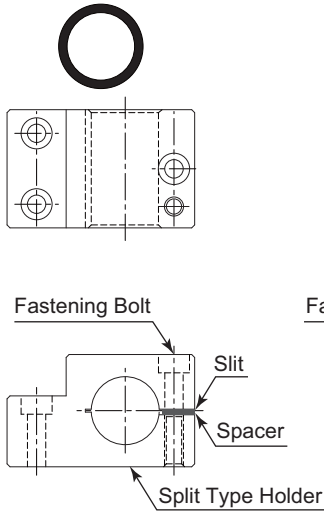
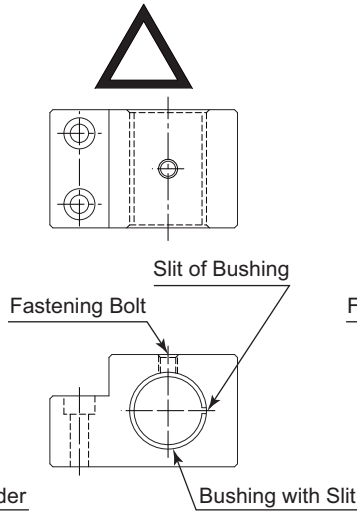

Fig. 15
Fig. 16
- ② When installing a spindle to the holder, recommended installation method is shown Fig 15. Refer to "③ How to fabricate the Split Type Holder ". If this is not possible, install as shown in Fig. 16.